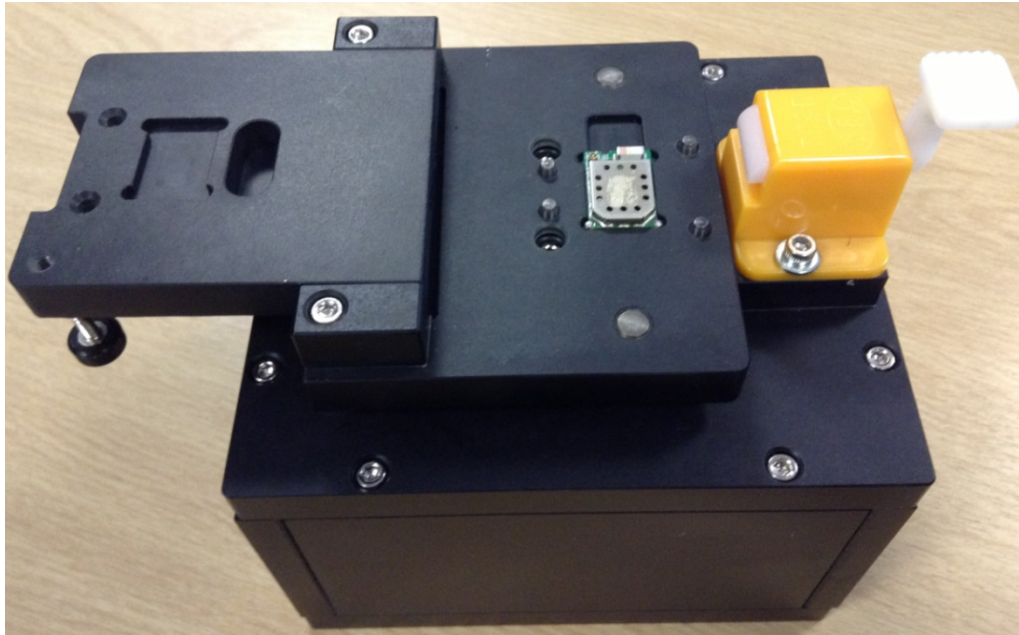

Figure 2: BL600 module placement on the programming jig
2. Place a BL600 module on the programmer (Figure 2).